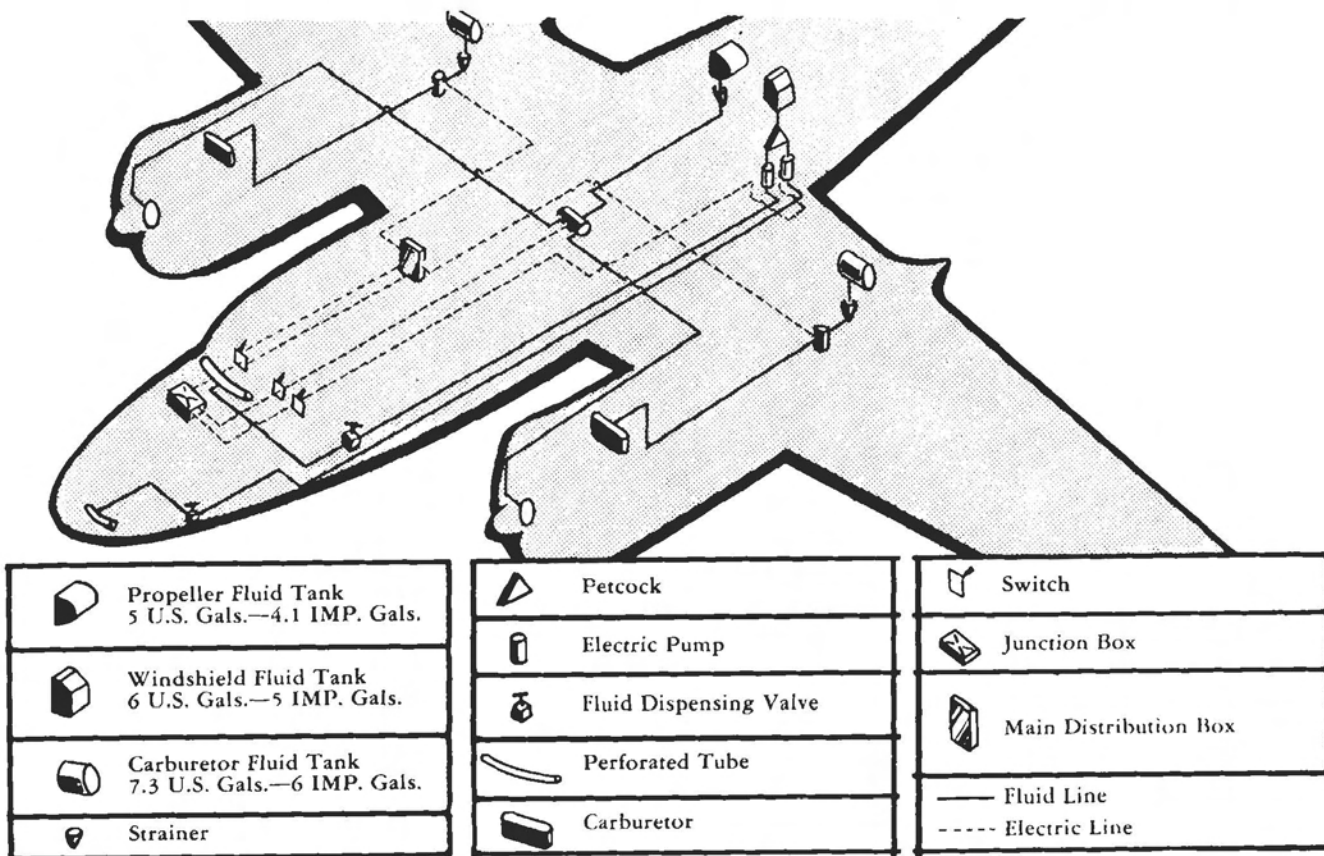

Figure 29 — Anti-Icing System Diagram
n. ANTI-ICING SYSTEM. (See figure 29.)
(1) DESCRIPTION.—Anti-icing fluid is delivered to the propellers, carburetors, and to the pilot's and bombardier's windshields by three separate systems. In some airplanes, there is no fluid windshield anti-icing nor fluid carburetor anti-icing.